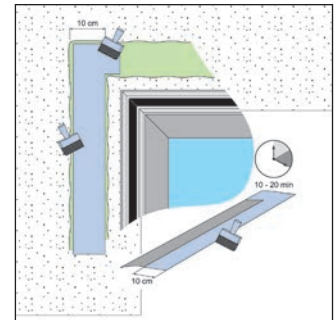

Figure 2
- Apply CT113 using a brush or roller evenly to both surfaces to be bonded (see Fig. 2).